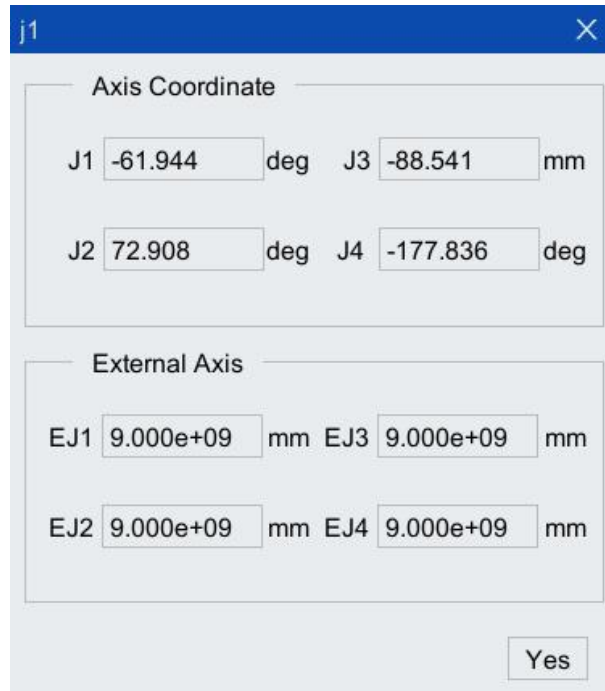

Figure 5-12 "j" variable display box
Step2. Click <...> button after the axis position variable j to pop up "j variable" display box in Figure 5-12, which displays the current position information of the robot body axis (J1-J4) and the external axis (EJ1-EJ4) . The position is displayed but cannot be modified. Click <Yes> button, and then the current position information can be obtained automatically after the instruction is inserted; if you want to modify it, you must complete the modification through "Revise Cmd" or "Get pose" in the toolbar of the program editor.